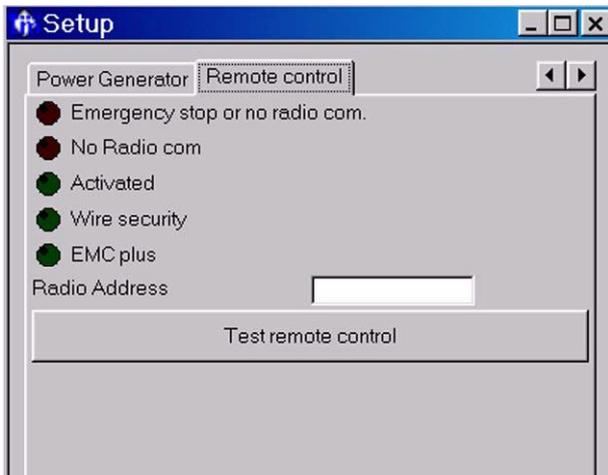

Fig 14.
- 2 Open the 'Setup' window. Select the 'Remote control' tab. Click the 'Test remote control' button. 'LED lights' show the system status. The window displays 'real time' functions that apply at the moment they are viewed as the machine is operating. ⇒ Fig 14. \(□ 19\)